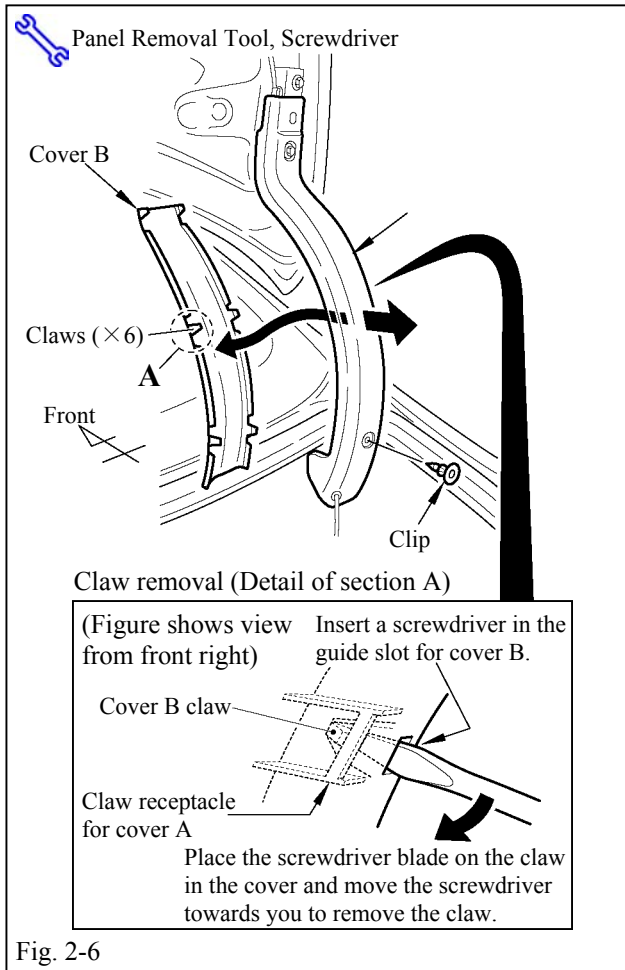

Fig. 2-6
- (f) Remove the trunk door hinge cover (R) (Fig. 2-6).
- (1) Remove cover B from cover A.
- (2) Remove the clip, and then remove cover A from door hinge.